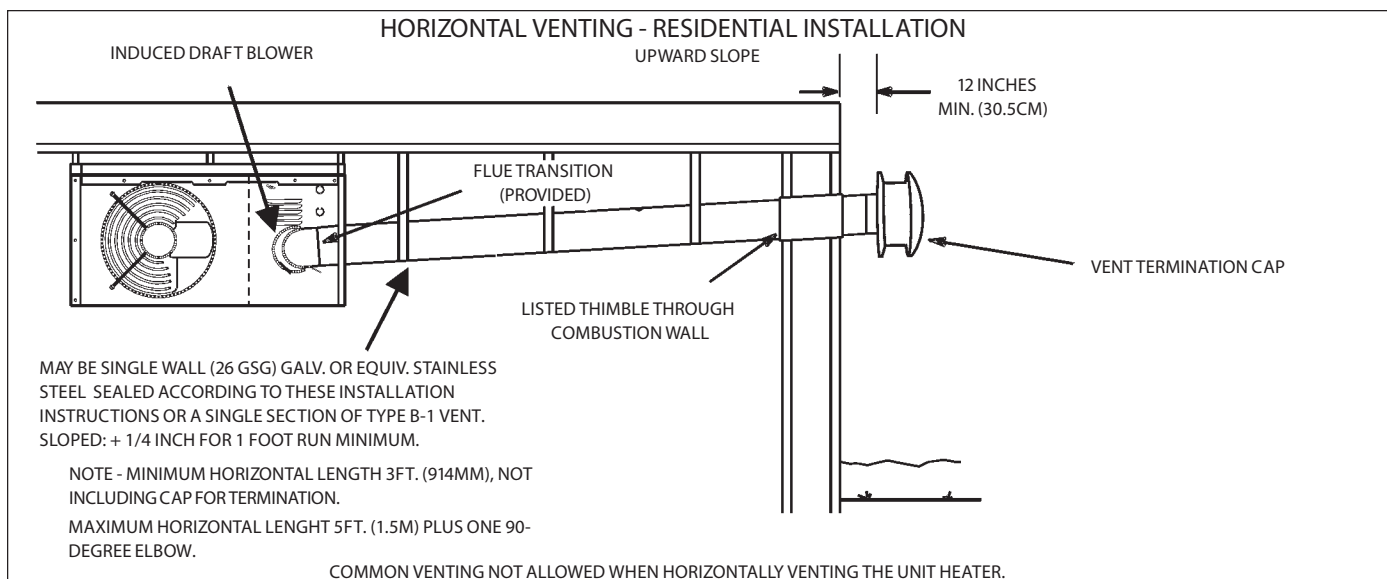

FIGURE 6
- For horizontal residential installations these units are certified as Category I appliances. The vent may be single wall material minimum 25 GSG (0.46mm) galvanized steel or equivalent grade stainless steel. Venting A - General Recommendations and Requirements and C - Horizontal Venting General and E - Horizontal Venting - Residential. Refer to figure 6 .